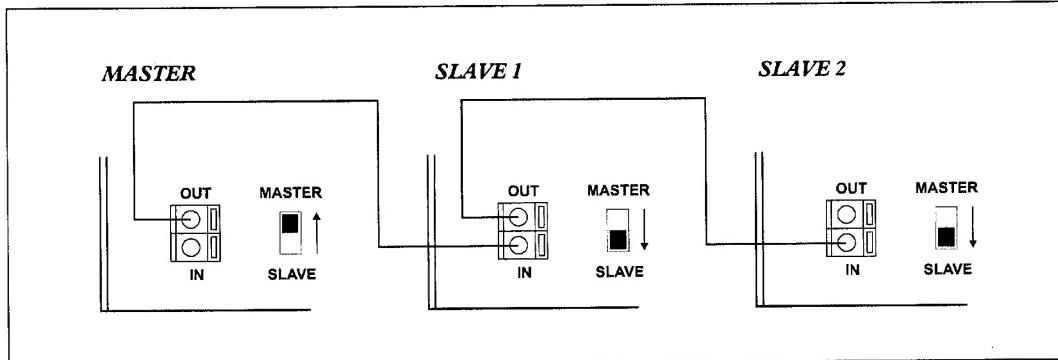

FIG. 6.3
- 2. Switch the master/slave switch, FIG. 6.3 , on all the slave units from "MASTER" to "SLAVE" position.**
- 3. Hook-up the IN/OUT terminals for MASTER/ SLAVE operation as shown in FIG. 6.3.**